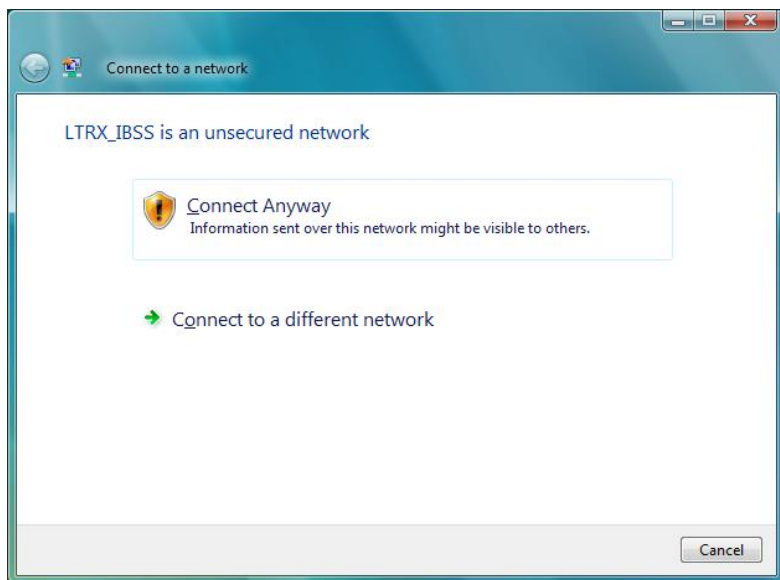

Figure 35
- Depending on your system security settings, you may receive an “unsecured network” message similar to the one in Figure 35. If so, click **Connect Anyway**.